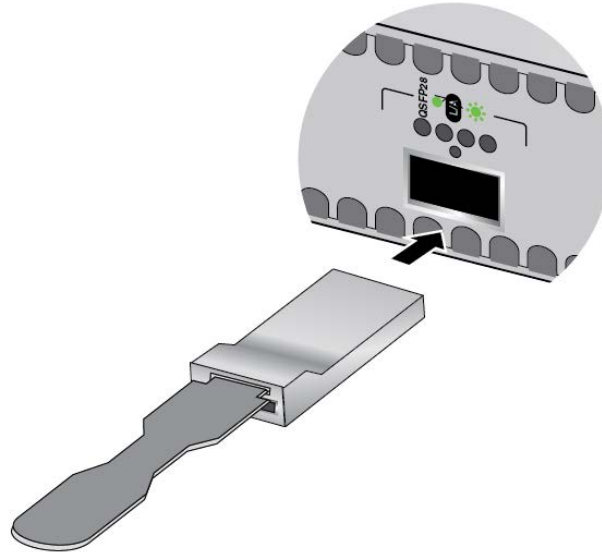

Figure 137. Installing 100Gbps QSFP28 Transceivers in XEM2-1CQ Line Cards
- ❑ 100Gbps QSFP28 transceivers for XEM2-1CQ Line Card: refer to Figure 137.